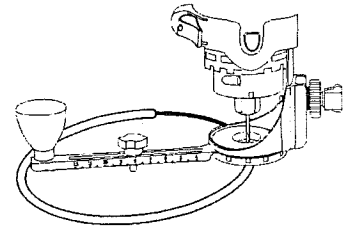

Fig. 14
6. When the motor is up to full speed, slowly tip the and circle cutter assembly to an upright position, letting the bit cut into the workpiece (see Fig. 14). Careful to keep the pivot point located at the center of the circle to be cut. Once the tool has reached the upright position and the bit has cut through the workpiece, slowly move the tool in a **clockwise** direction using slow steady pressure to make the cut. Continue to cut the circle, keeping the tool upright, rotating around the circle cutter pivot point.